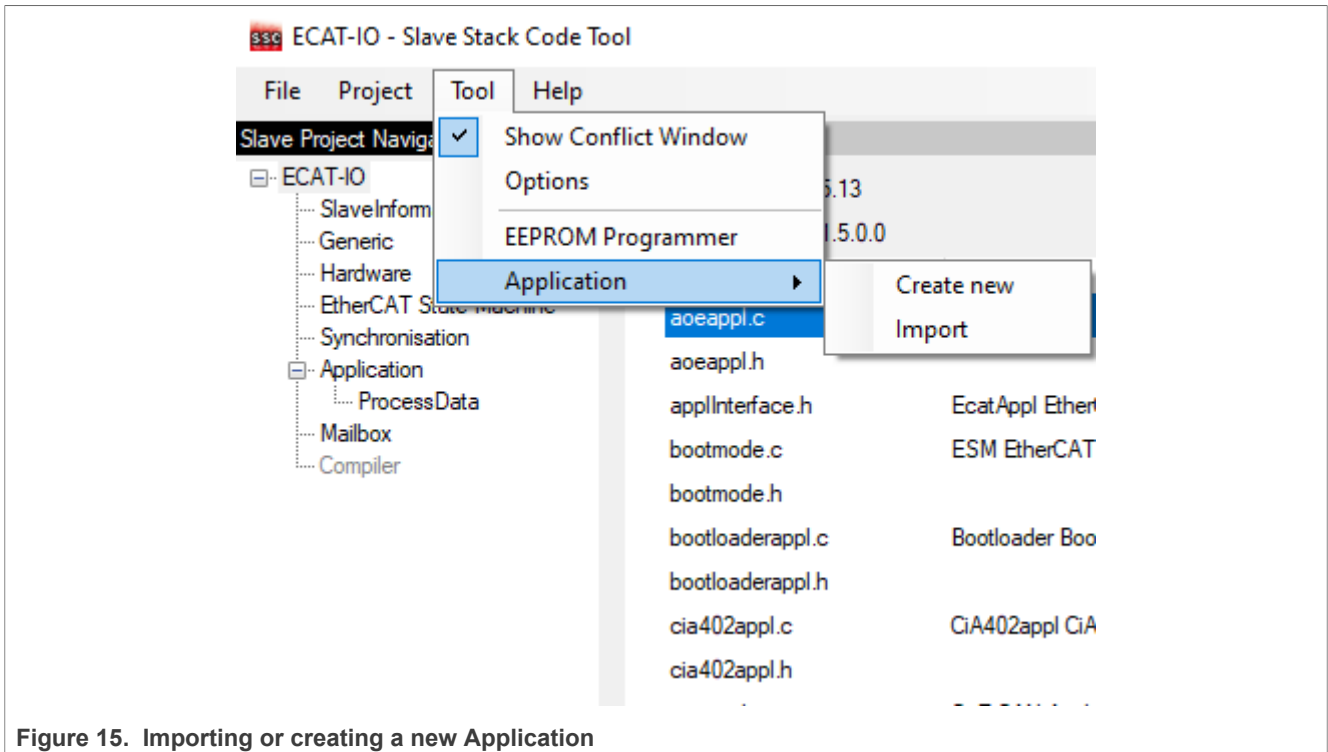

Figure 15. Importing or creating a new Application
7. To create or import application files, click **Tool > Application**. Select **Import** or **Create New**, as shown in Figure 15. The Application file can also be found in the below Application file path in MIMXRT1180-EVK SDK: